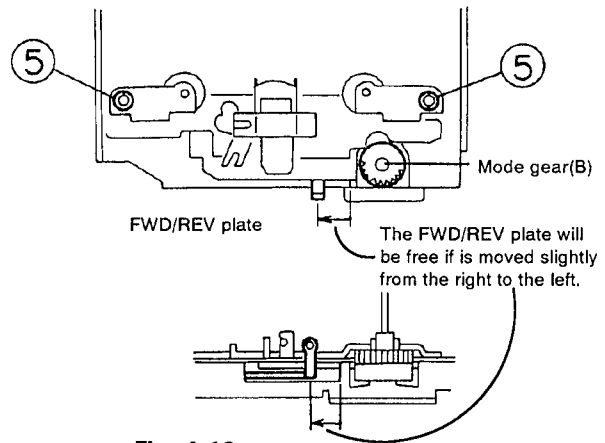

Fig. 4-10
■ **Pinch roller ass'y** (See Figs. 4-10 and 4-11)
- 1) Remove two C washers ⑤ securing the pinch roller ass'y (do this for both the FF and REV modes).